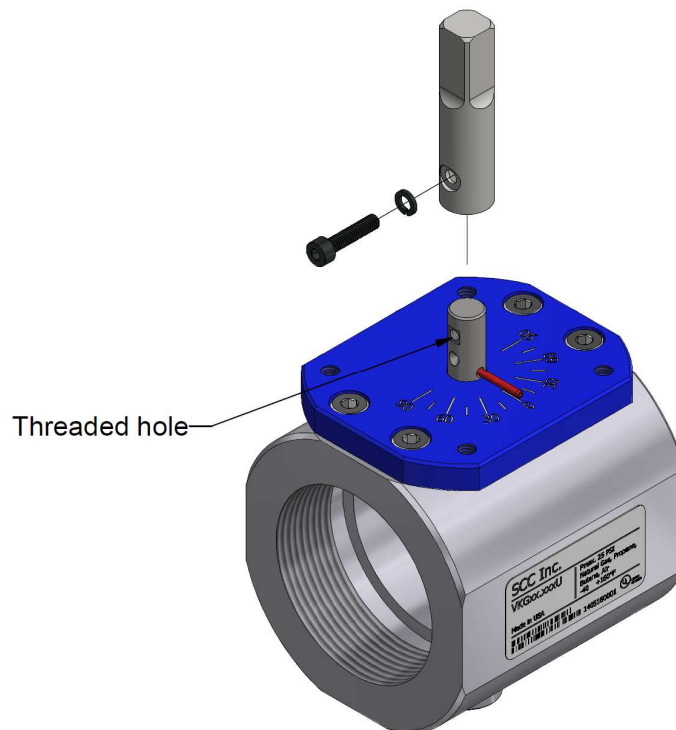

Figure 2: Coupling Installation
1. Slide the coupling over the VKG... valve shaft and line up the hole in the coupling with the threaded hole in the valve shaft. Using a 3mm hex key, the M4 split lock washer, and the M4 x 18mm socket cap screw, fasten the coupling to the valve shaft as shown in Figure 2 below.